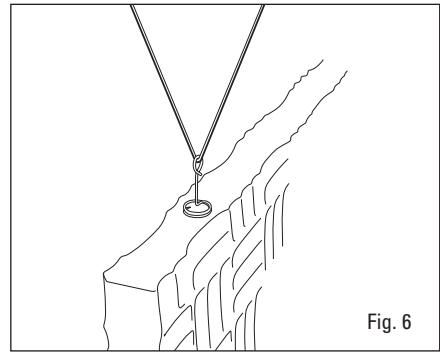
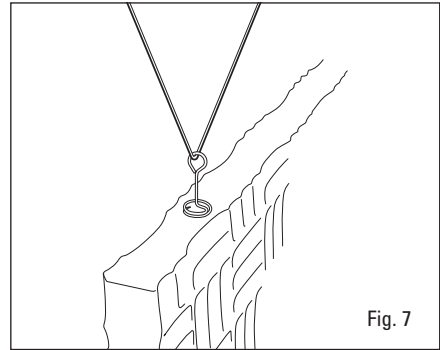

Fig. 6
Fig. 7
- C3. If installing SONEX® Valueline or WHISPERWAVE Baffles, slip the eye loop of the corkscrew over the cable (Figure 6). Turn the eye loops approximately ¼ turn counterclockwise so the eye loop is perpendicular to the baffle, locking the cable in place (Figure 7).